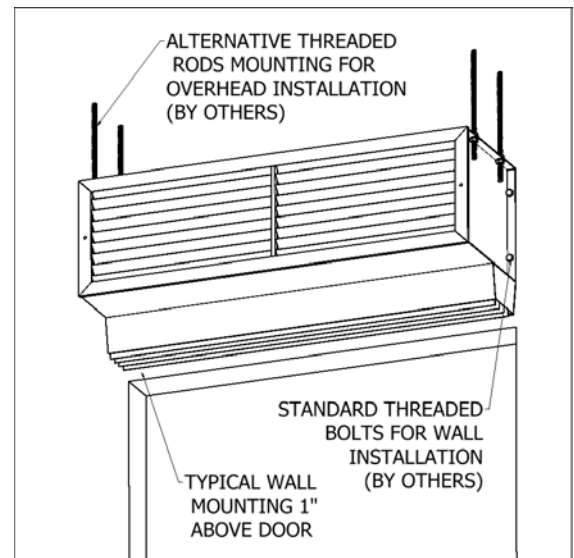

FIG. 1
3. Eight (8) pre-punched 7/16" mounting holes are provided for your convenience. There are two (2) holes on each of the left and right and back and top flanges of the product. These holes must be utilized to secure the product to the wall or ceiling. If necessary, holes may be drilled inside the product to align with the stud spacing. All hardware is field provided by others.
4. Mount the product such that the discharge is 1" above the opening and all obstacles. (FIG. 1)
5. Use four (4) threaded rods for overhead installation or four (4) threaded bolts for wall installation. All hardware is field provided by others. (FIG. 1)